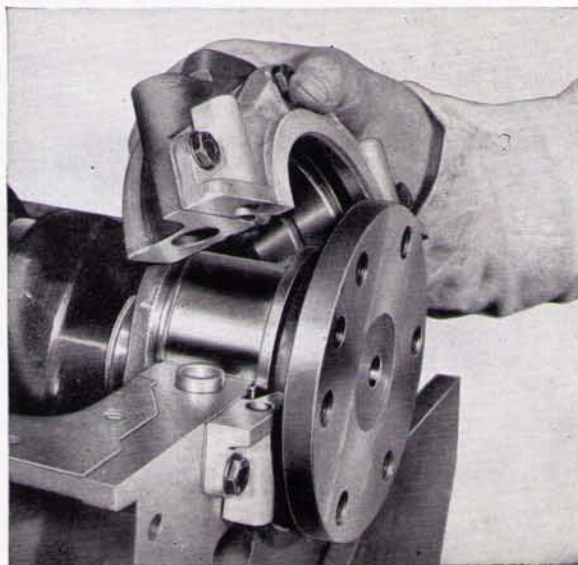

Fig. L.8.
- remove the lower half thrust washers from the cap. See Fig. L.8.
5. Replace and secure the rear main bearing cap. See Fig. L.8.